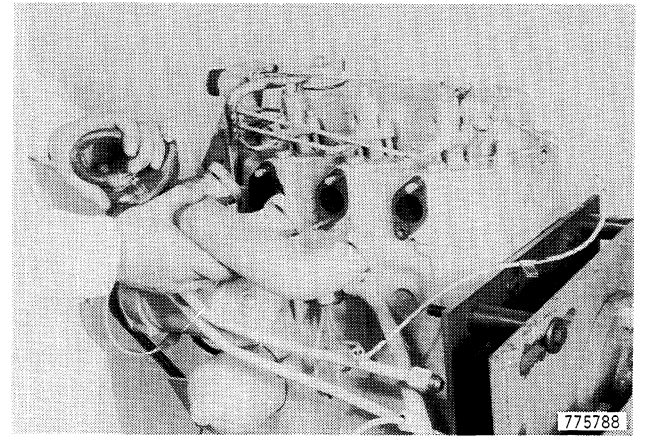

Figure 42
- 17. Remove the exhaust manifold, Figure 42.